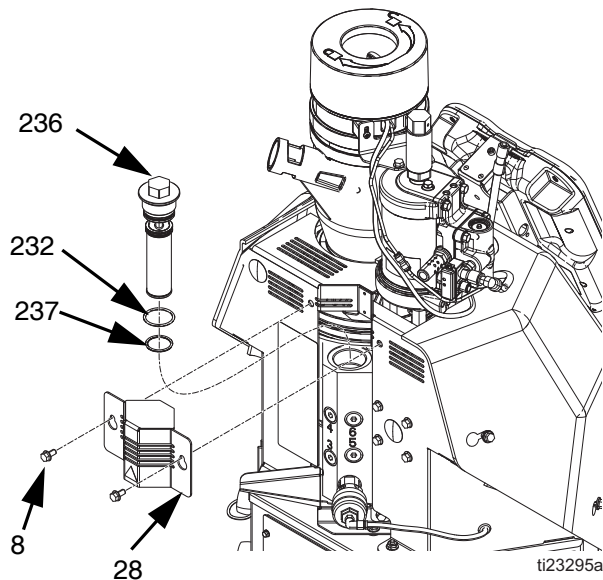

FIG. 23
4. Loosen two screws (8) then slide the small metal shroud (28) on the back of the system up to remove. See FIG. 23.
5. Use a 1 in. socket to unscrew outlet filter (236).
6. Insert allen wrench through the outlet filter cap to lift outlet filter (236) out of the system.
8. Place o-rings (232, 237) provided with new outlet filter onto new outlet filter (236).
10. Install small metal shroud (28) over outlet filter then tighten two screws (8).